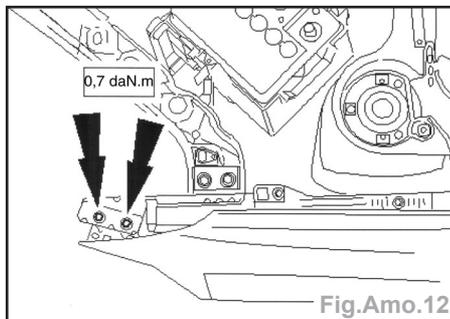

Fig.Amo.12
- les vis AV (flèches) (Fig.Amo.12),